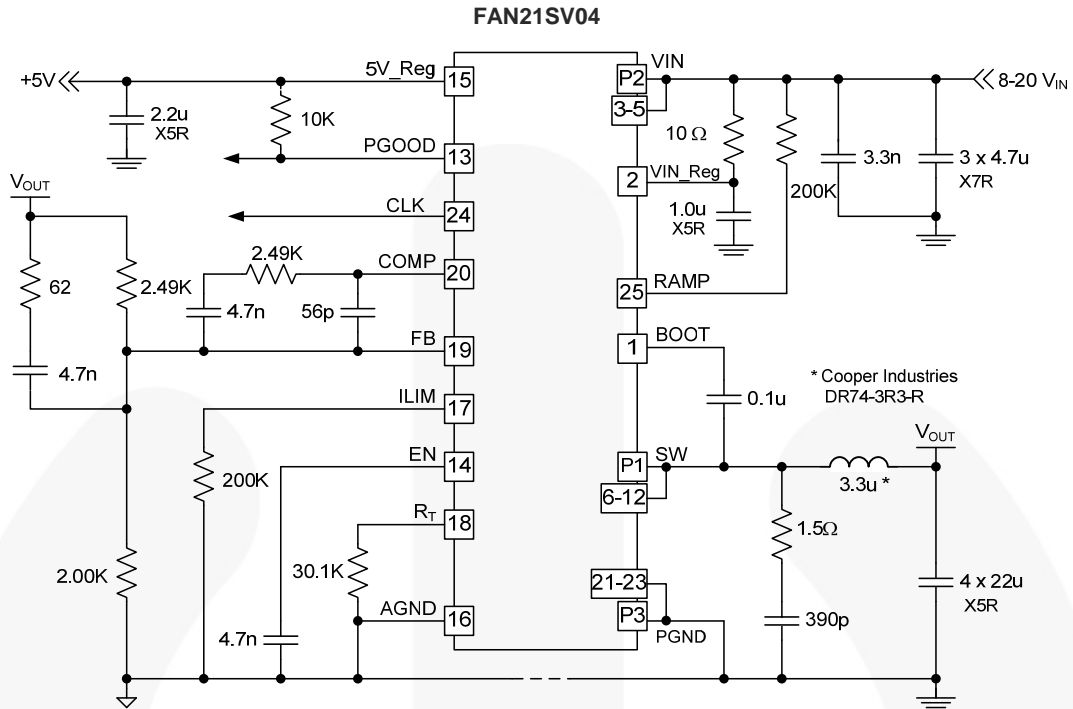
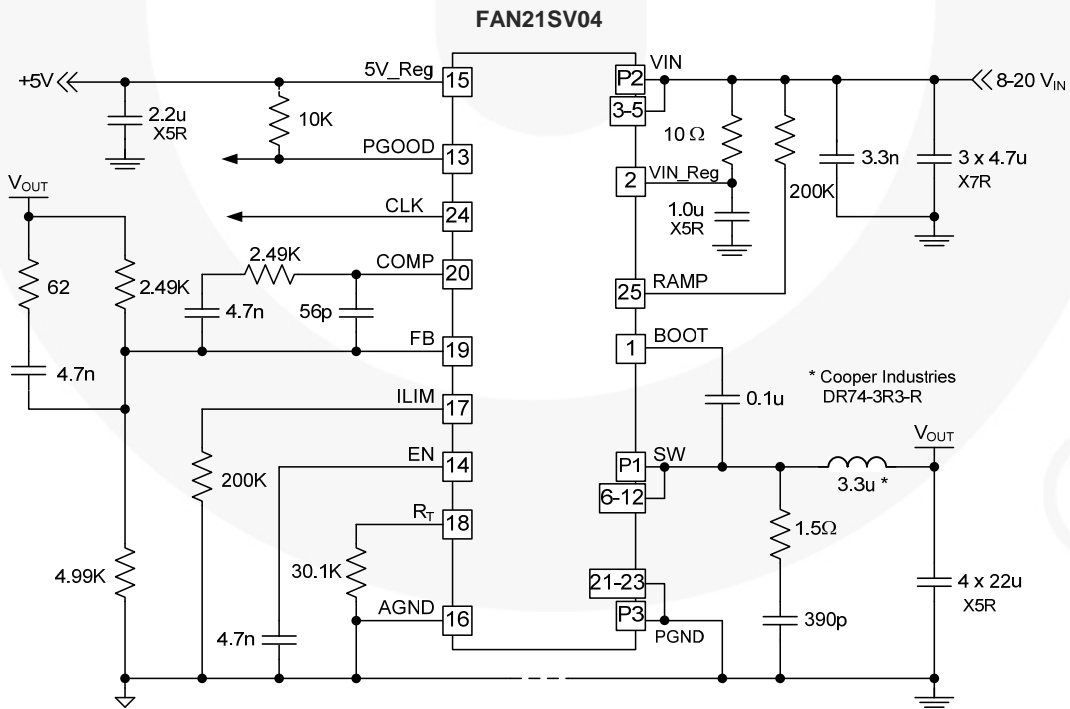

Figure 10. Single-Supply Application Circuit: 1.8 V_{OUT}, 500 KHz, Master, 8 V – 20 V Input
Figure 11. Single-Supply Application Circuit: 1.2 V_{OUT}, 500 KHz, Master 8 V – 20 V Input
Typical operating characteristics using the Figure 10 circuit; $V_{IN}=12\text{ V}$, $V_{CC}=5\text{ V}$, $T_A=25^\circ\text{C}$, unless otherwise specified.
4. Circuit values for this configuration change in Figure 10.
5. Circuit values for this configuration change in Figure 10.
Typical operating characteristics using the Figure 10 circuit. $V_{IN}=12$ V unless otherwise specified.
For applications with $V_{IN} < 6.5\text{ V}$, FAN21SV04 can be used if V_{IN_Reg} is provided with a separate low-power source $>6.5\text{ V}$. V_{IN_Reg} supply should come up after V_{IN} during dual-supply operation. The V_{IN_Reg} pin should always be decoupled with at least a $10\text{ }\Omega$ resistor and a $1\text{ }\mu\text{F}$ ceramic capacitor (see Figure 10, Figure 11).